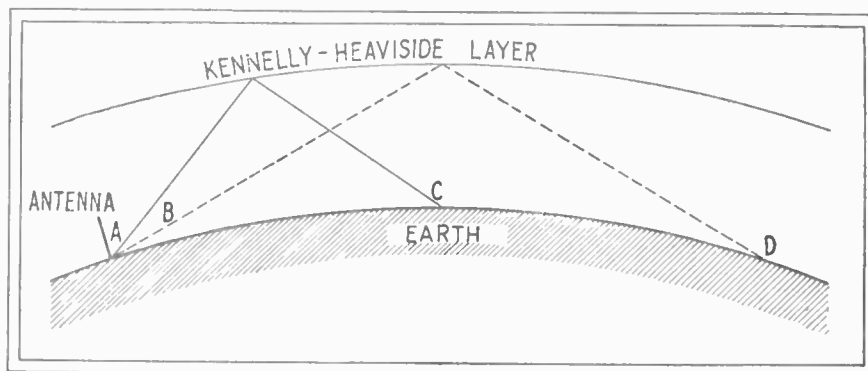

Fig. 2—Illustrating the "skip-distance" effect, as explained in the text
Since the absorption of extremely short wavelengths is negligible in the Kennelly-Heaviside layer, and the skip distance is long, as shown in Fig. 1, strong signals should be received from stations located at great distances. The line (A) in Fig. 2 shows the possible angle of radiation from a certain type of antenna adjusted to 25 meters. The primary skip distance depends entirely on the angle of radiation and the height of the Kennelly-Heaviside layer. It is possible, by employing plane antenna and reflectors, to concentrate the antenna radiation at an angle most advantageous for reception at a given distance. For extreme distances it would be possible to control the radiation angle to increase the skip distance, and thus increase the signal strength from three to four times at the receiving station. The line B shows how the radiation angle may be changed so as to reach point D on the earth. Note that the 40° angle would give strong signals at C and diminish in strength toward D. Radiation angle B would skip over position C and produce strong signals at position D.